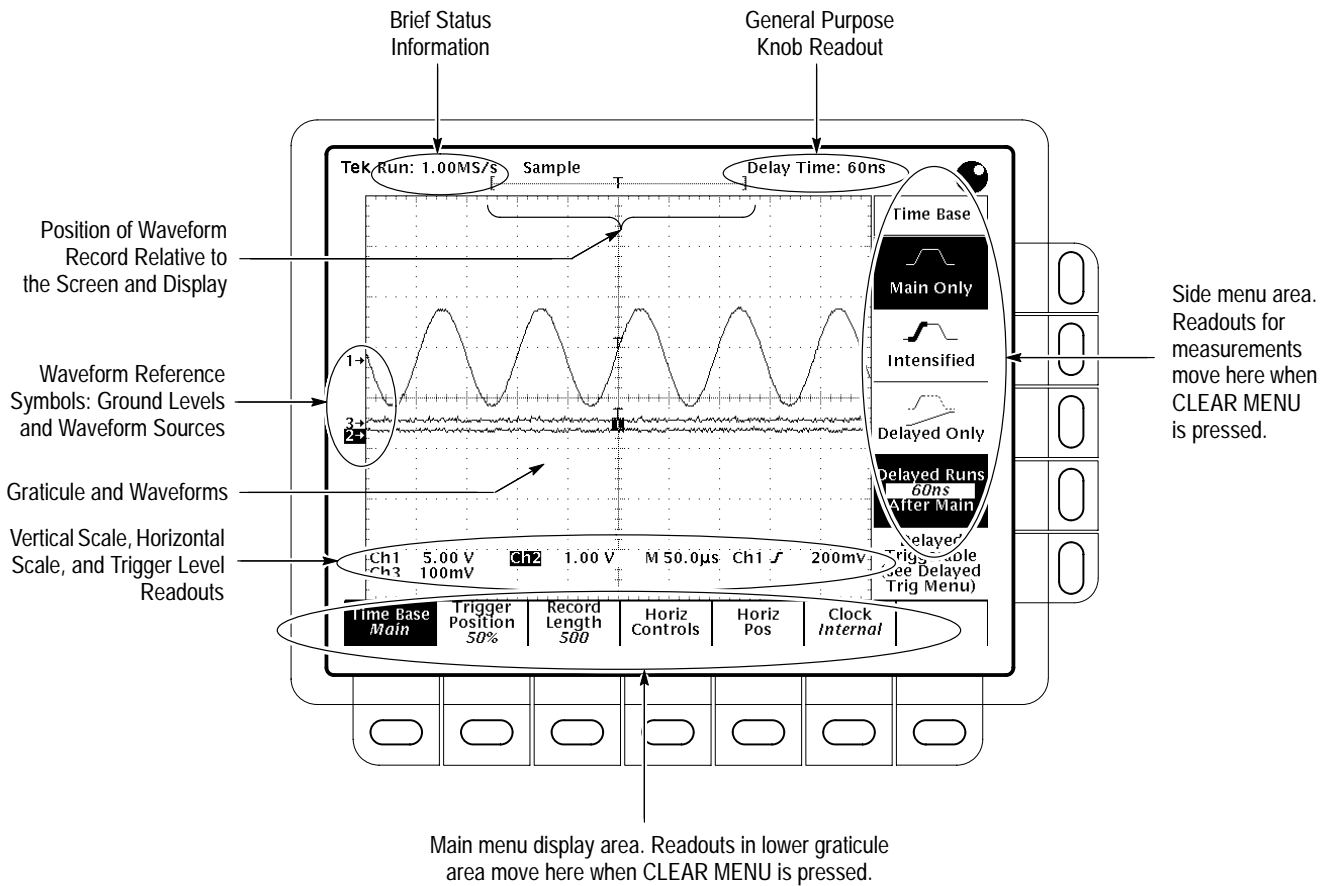

Figure 2-1: Map of Display Functions
- The general purpose knob has a readout area at the upper-right corner of the screen. (See Figure 2-1.) This readout always reflects the name and value of the function that the general purpose knob is currently controlling.